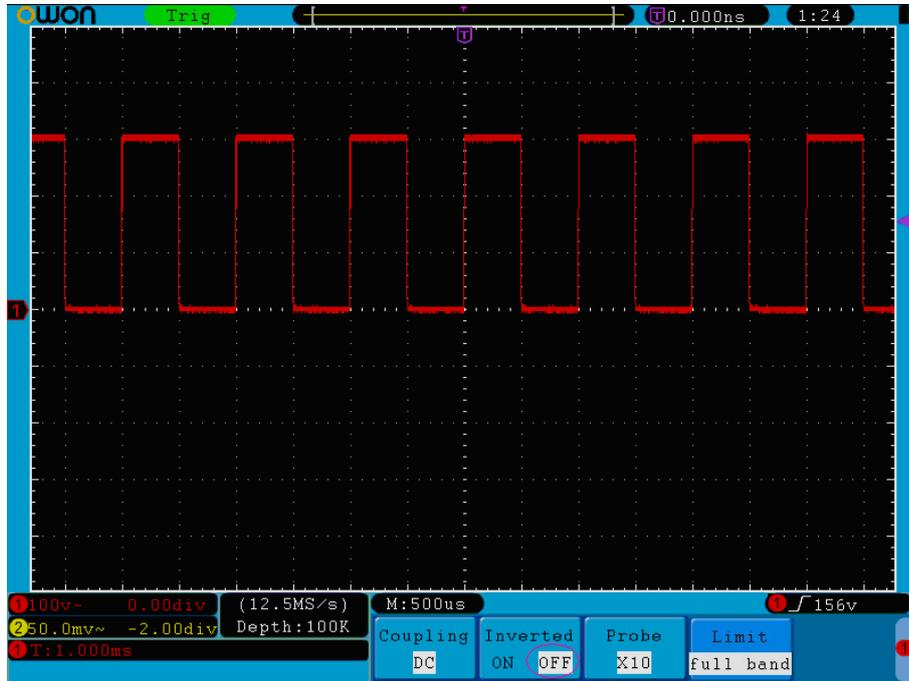

Fig. 5-4 Original Waveform
- (3) Press the **H2** menu selection button again and select **OFF** for **Inverted** item. The waveform goes back to its original one as it is shown in Fig.5-4.